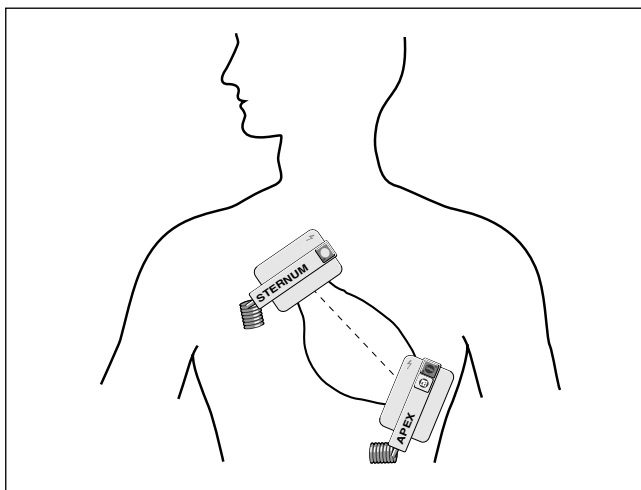

Figure 5-5. Paddle placement
- * Apply the electrodes to the patient's thorax so that the greatest possible amount of energy flows through the myocardium (the imaginary connecting line between the two electrode centers should be identical with the cardiac median line; Figure 5-5).